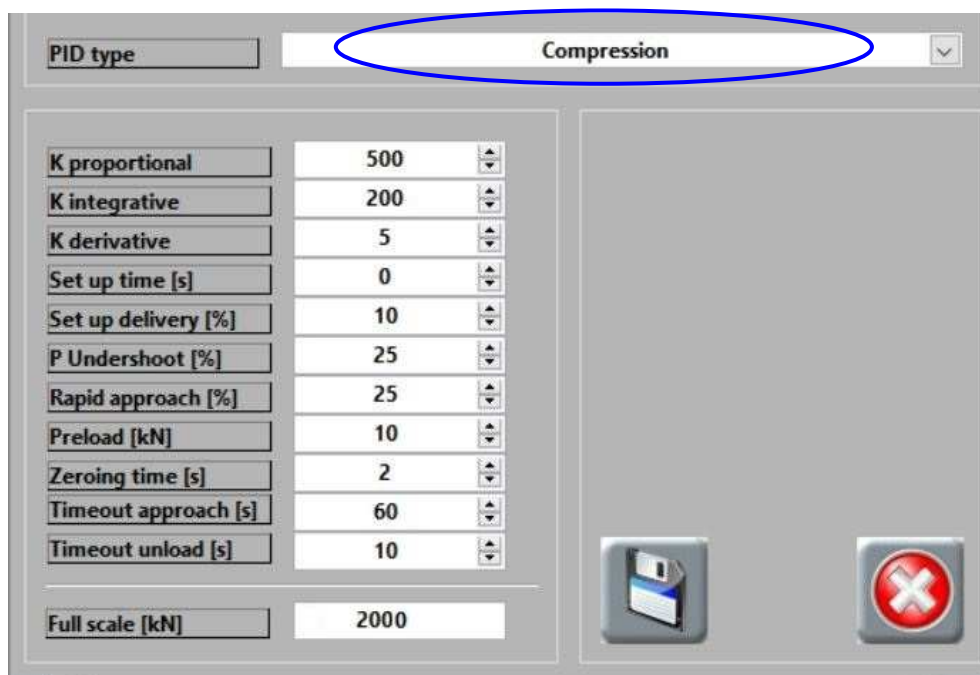

Fig. 7-5
5. Select the type of machine that is connected to the selected channel from the drop-down list in the **PID type** cell (see Fig. 7-5).